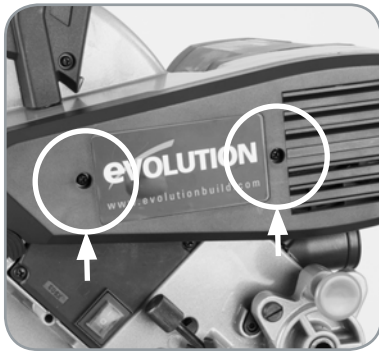

Fig. 45
- To gain access to the transmission case remove the plastic case cover by unscrewing the two (2) cross head screws which hold it in place. **(Fig. 45)**